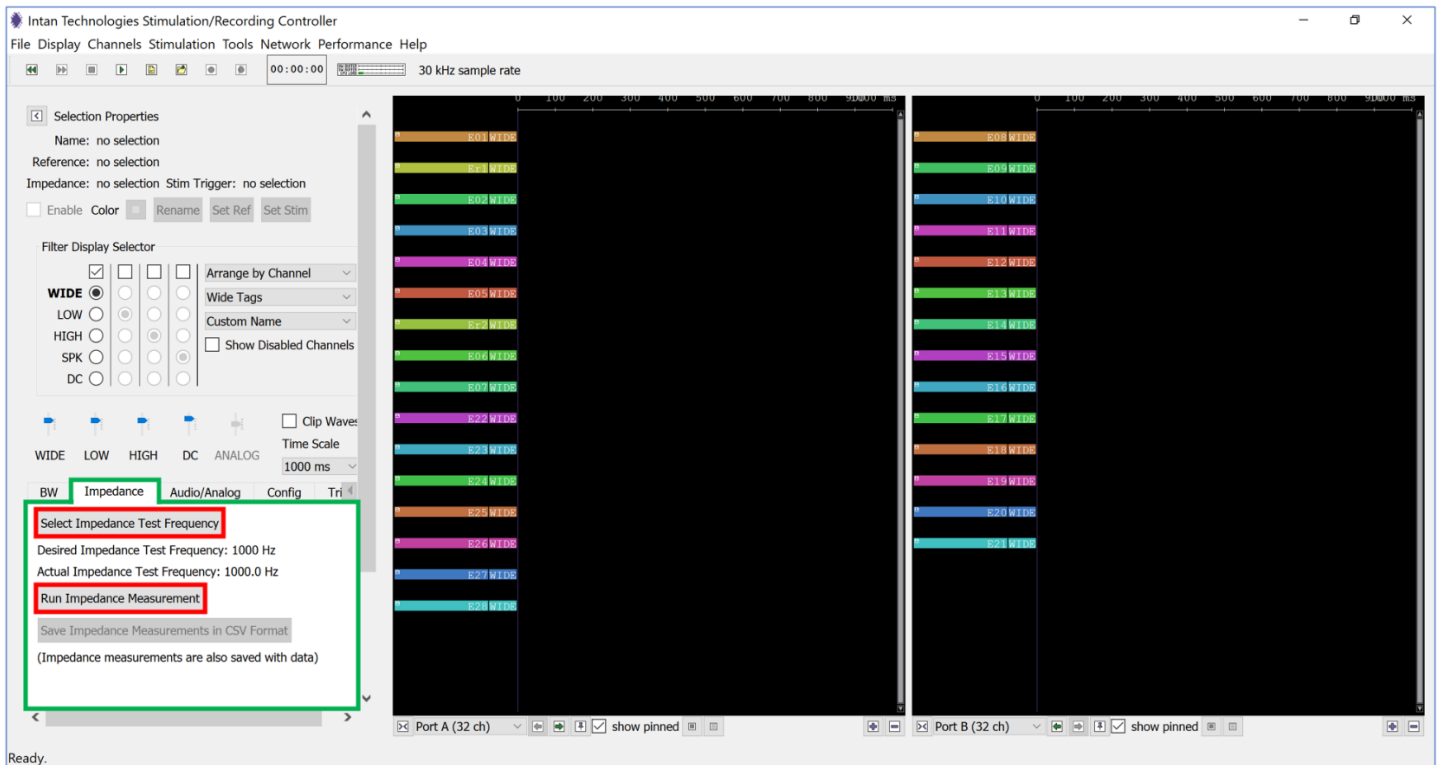

Fig. 36: GUI with impedance measurement features highlighted in green.
- 1) Click on the "Impedance" tab in the GUI (**Fig. 36**, highlighted green).
- 2) Click on the "Select Impedance Test Frequency" button (**Fig. 36**, highlighted red). This is typically set to 1 kHz.
- 3) Click the “Run Impedance Measurement” button (**Fig. 36**, highlighted red), and the impedance measurement will start. The measurement takes 4-10 seconds, and the measured impedance values will be displayed on the channel tags.